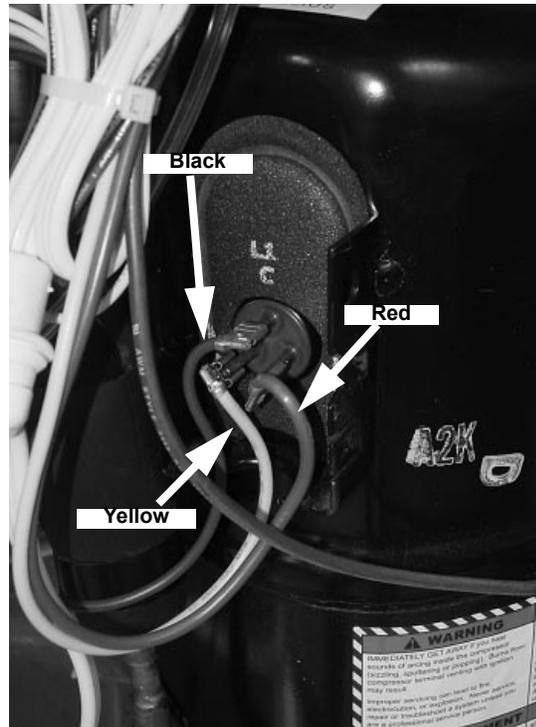

Figure 52.
56. Connect the compressor (Figure 52) and replace the junction box cover.